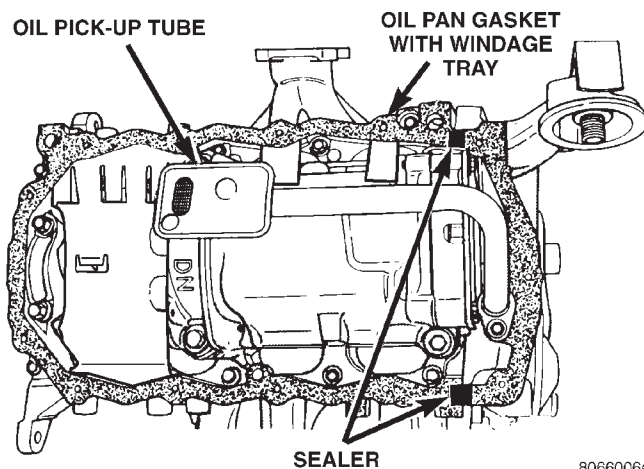

Fig. 60 Oil Pan Gasket Installation
(2) Install the oil pan gasket to the block (Fig. 60).
(3) Install pan and tighten the screws to 12 N·m (105 in. lbs.).